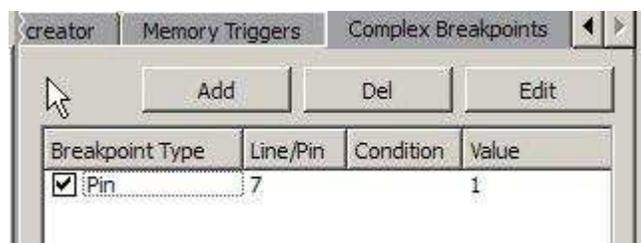

Figure 32. Review Complex Breakpoint Set for Pin 7 High
8. Press 'Ok' and confirm that the breakpoint is displayed in the Complex Breakpoints tab. You should see Breakpoint Type listed as "Pin", Line/Pin as 7, and Value as 1 (see Figure 32).